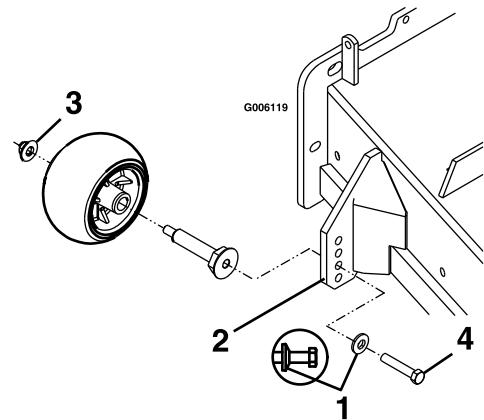

Figure 19
7. Be sure the roller bolts are installed with the spring disc washer between the head of the bolt and the mounting bracket (Figure 19).
8. Torque the 3/8–24 x 2 Gr 8 hex capscrew to 50–55 ft-lb (68–75 N-m) (Figure 19).